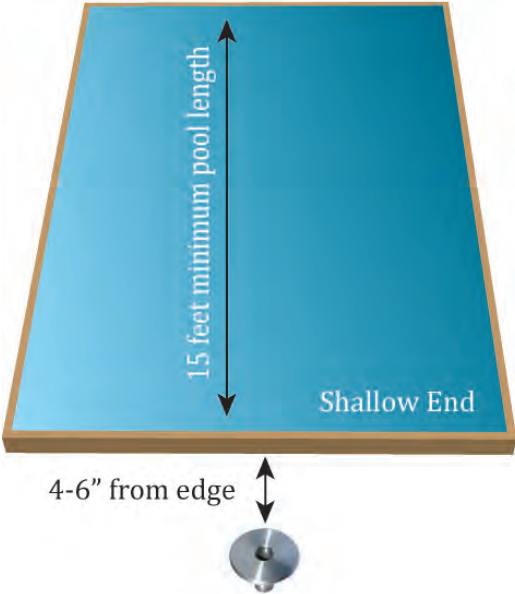

Fig.2
2. If the pool has a raised edge or lip, we recommend installing your Swim Tether 6 - 8" back from the edge or lip. (Fig. 2)